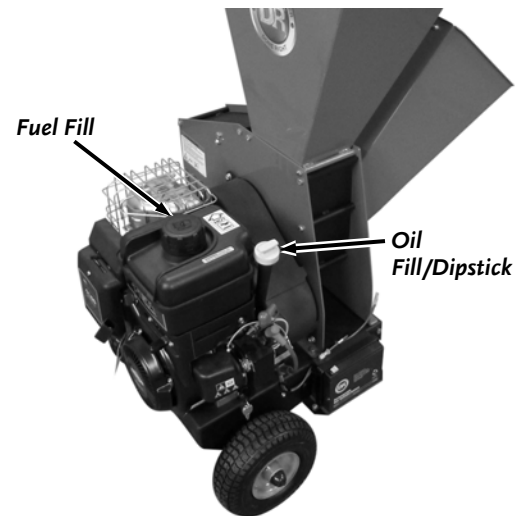

Figure 4
1. Position the machine so the Engine is level. Remove the Oil Fill/Dipstick (**Figure 4**).